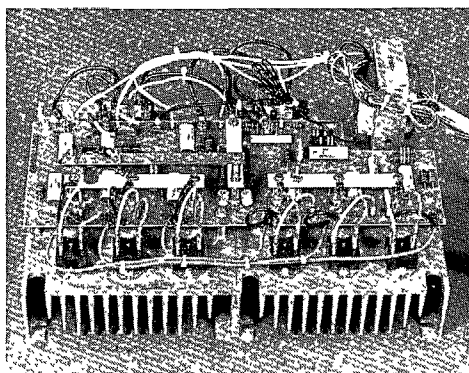

FIGURE 38E
- b. For 5 and 7 1/2 HP Controllers (extruded heatsink), remove the six nuts with captive washers that fasten the heatsink to the rear case and pull out the heatsink. Slots are provided in the top part of the heatsink for access to the nuts. See Figure 38E.